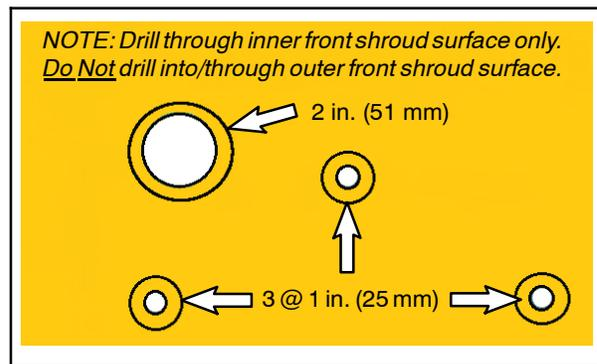

FIG. 10
- From inside the shroud drill a 1 in. (25 mm) hole through each 0.375 in. (9.5 mm) hole in the inner surface of the front shroud. Do not drill into/through the outer surface. (Fig. 10)
- From inside the shroud drill a 2 in. (51 mm) hole through the 0.886 in. (22.5 mm) hole in the inner surface of the front shroud. Do not drill into/through the outer surface. (Fig. 10)